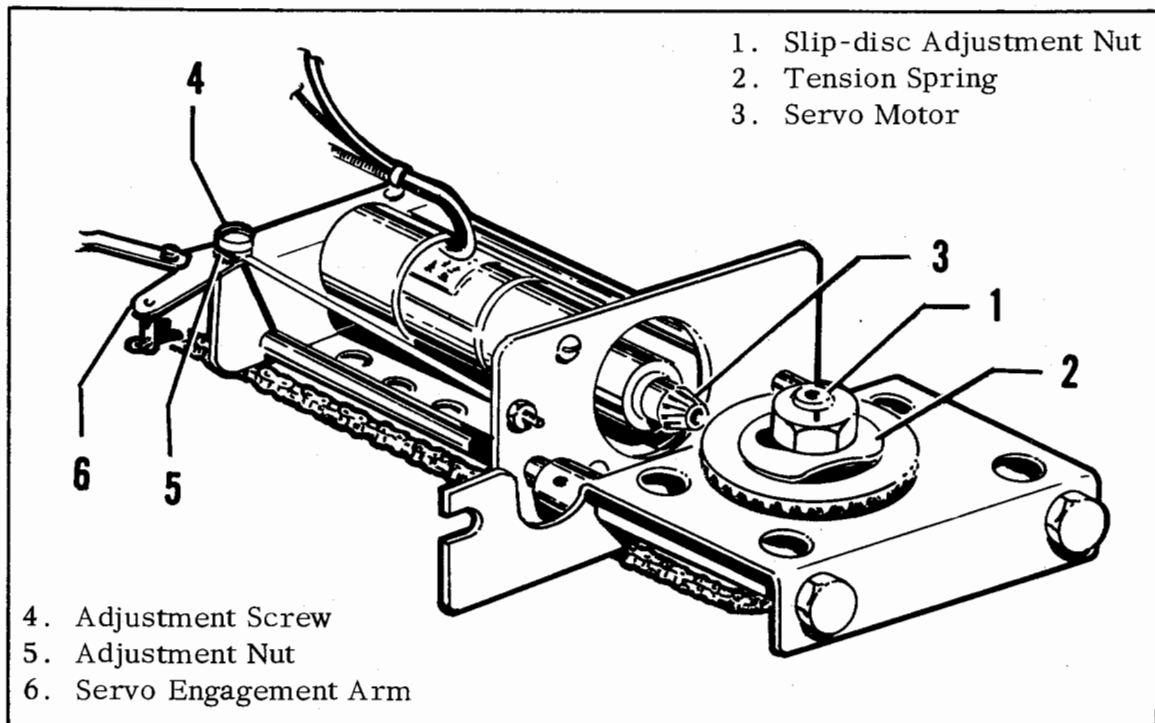

Figure 2-8. Pitch Servo Adjustment
2. Loosen filister head screw (See 4, figure 2-8) enough so the 7/16" nut
3. Turn the cam nut just a small amount. (See 5, figure 2-8)